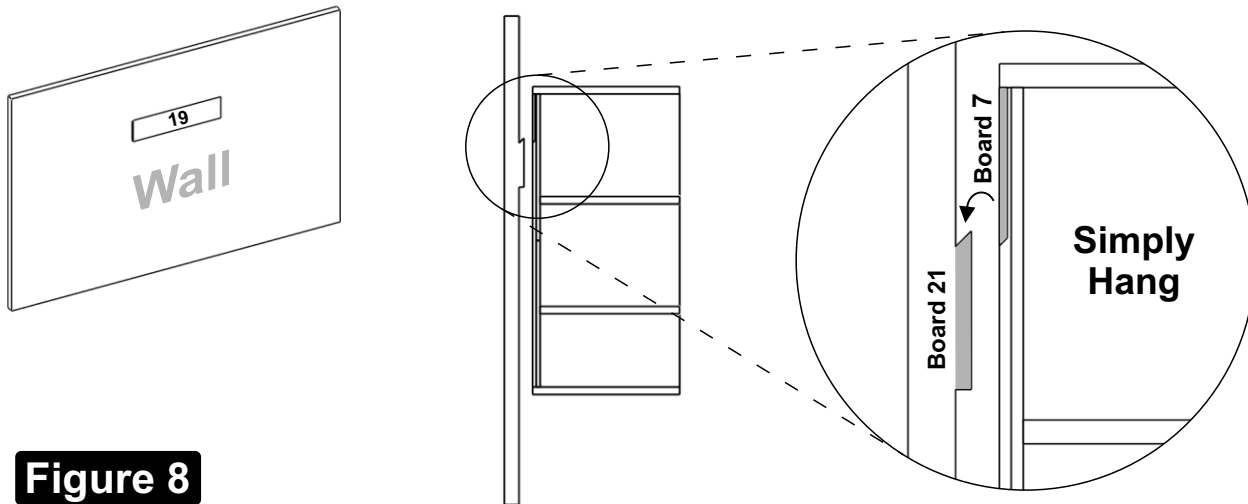

Figure 8
Step 8 : Affix **Board 19** on wall. Hang the Cabinet assembly onto the **Board 7** as shown in Figure 8.